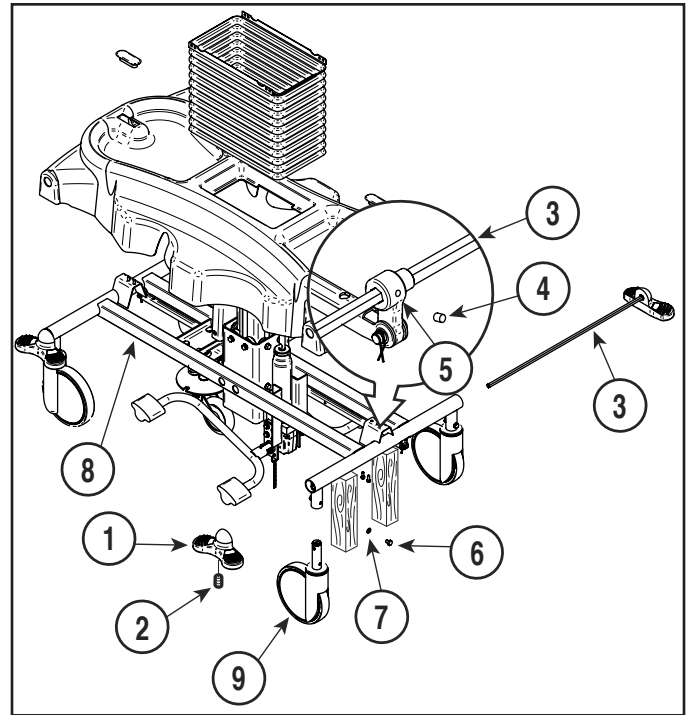

Figure 4-9. Caster Removal / Installation
- (1) Depress a caster control pedal (1, Figure 4-9) to the brake position.
- (2) Elevate end of stretcher from which caster is being removed at least 6 in. (15.2 cm) and secure with blocks.
- (3) Loosen setscrew (2) and remove caster control pedal (1) from actuator bar (3).
- (4) Loosen setscrew (4) which secures transfer lever (5) to actuator bar (3).
- (5) Remove two screws (6) and lockwashers (7) from chassis (8).